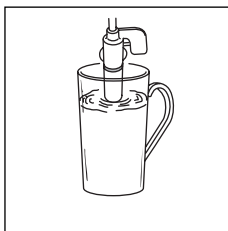
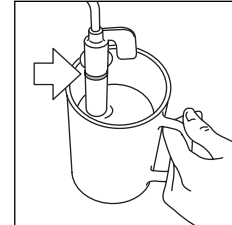

fig. 17
fig. 18
5. Dip the cappuccino maker into the milk (fig. 17), taking care not to immerse the raised line on the cappuccino maker (indicated by the arrow in fig. 18).